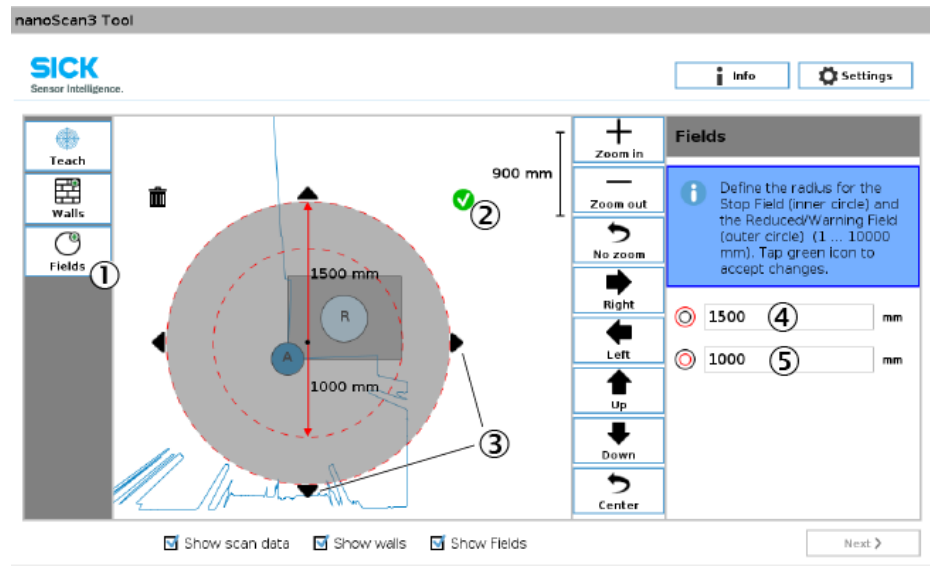

Figure 16: Drawing fields manually
3. Use the displayed tools to configure the circles as desired and confirm by ticking the check mark (see figure 16).